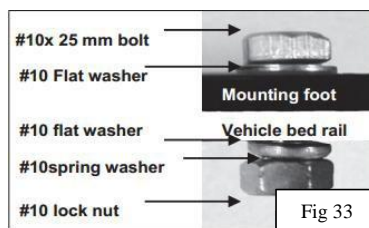

Fig 33
3. With the holes in the mounting feet aligned with the holes in the truck bedrail attach the mounting foot to the truck bedrail with the 2 #10 x 25mm bolts, flat washers, spring washer, and lock nut. (Fig 33)